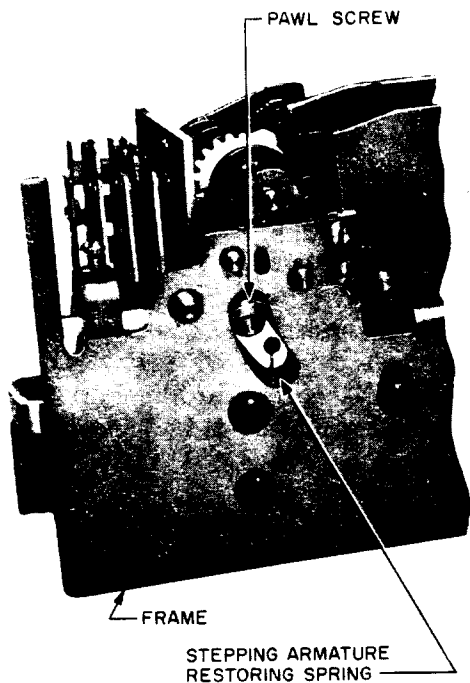

Fig. 5 - Partial Bottom View of 3-Type Counter
**\*φ2.15 Stepping Armature Restoring Spring Force:** Fig. 5 — With the stepping armature in the unoperated position, the force required at the pawl screw to move the armature off the backstop shall be
To check the requirement, apply the gauge to the head of the pawl screw as follows. With the counter viewed as shown in Fig. 5, position the gauge with the reed perpendicular to the frame and the tip of the reed against the lower edge of the head of the pawl screw so as to obtain an indication on the gauge when upward pressure is exerted on the head. Then exert upward pressure on the head with the gauge and observe the indication on the gauge as the screw just starts to move.